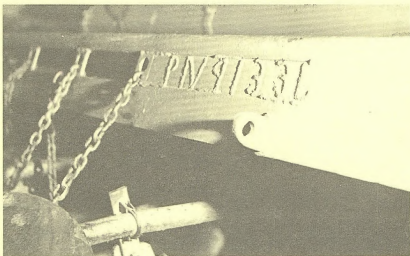

Figure 18. Property number
10. Welding the property number on the rear of the drill frame is a good practice (Figure 18). This makes for continued, positive identification, whereas the property number tag or painted numbers can easily be lost or obliterated. Drills are frequently loaned among or between agencies, and positive identification is a must.